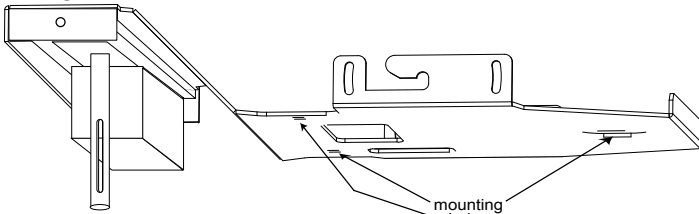

Figure 18
6. Invert the projector and place it on a soft, flat surface. Align the three 6mm mounting holes on the projector with the mounting holes on Plate #4 and the LN9101M Sled. Secure the bracket to the projector using the three 6mm screws. Refer to figures 18 and 19.